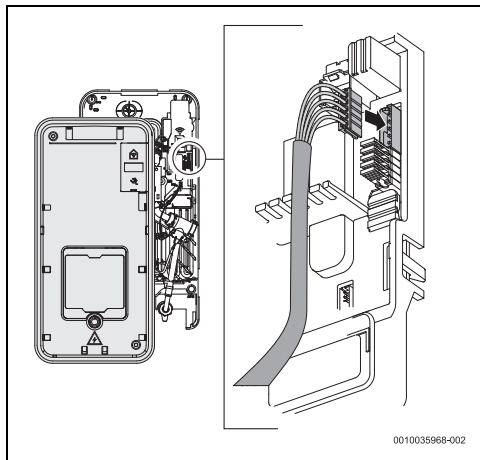

Fig. 43
- Check if the cable from the operating panel is correctly connected to the electronic board (→ Fig. 43).